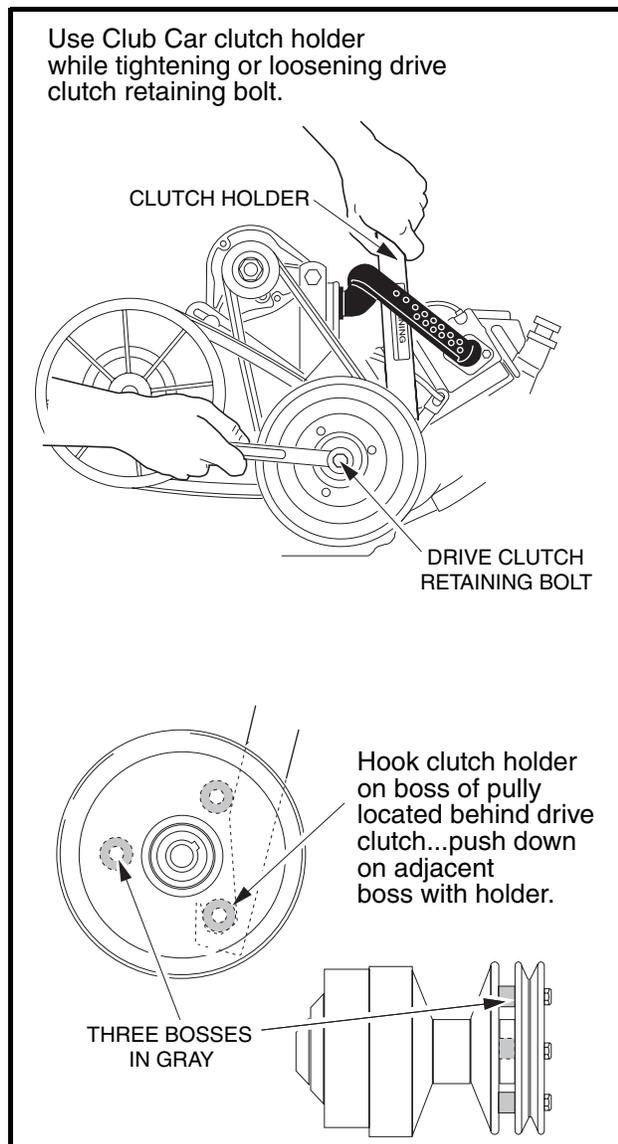
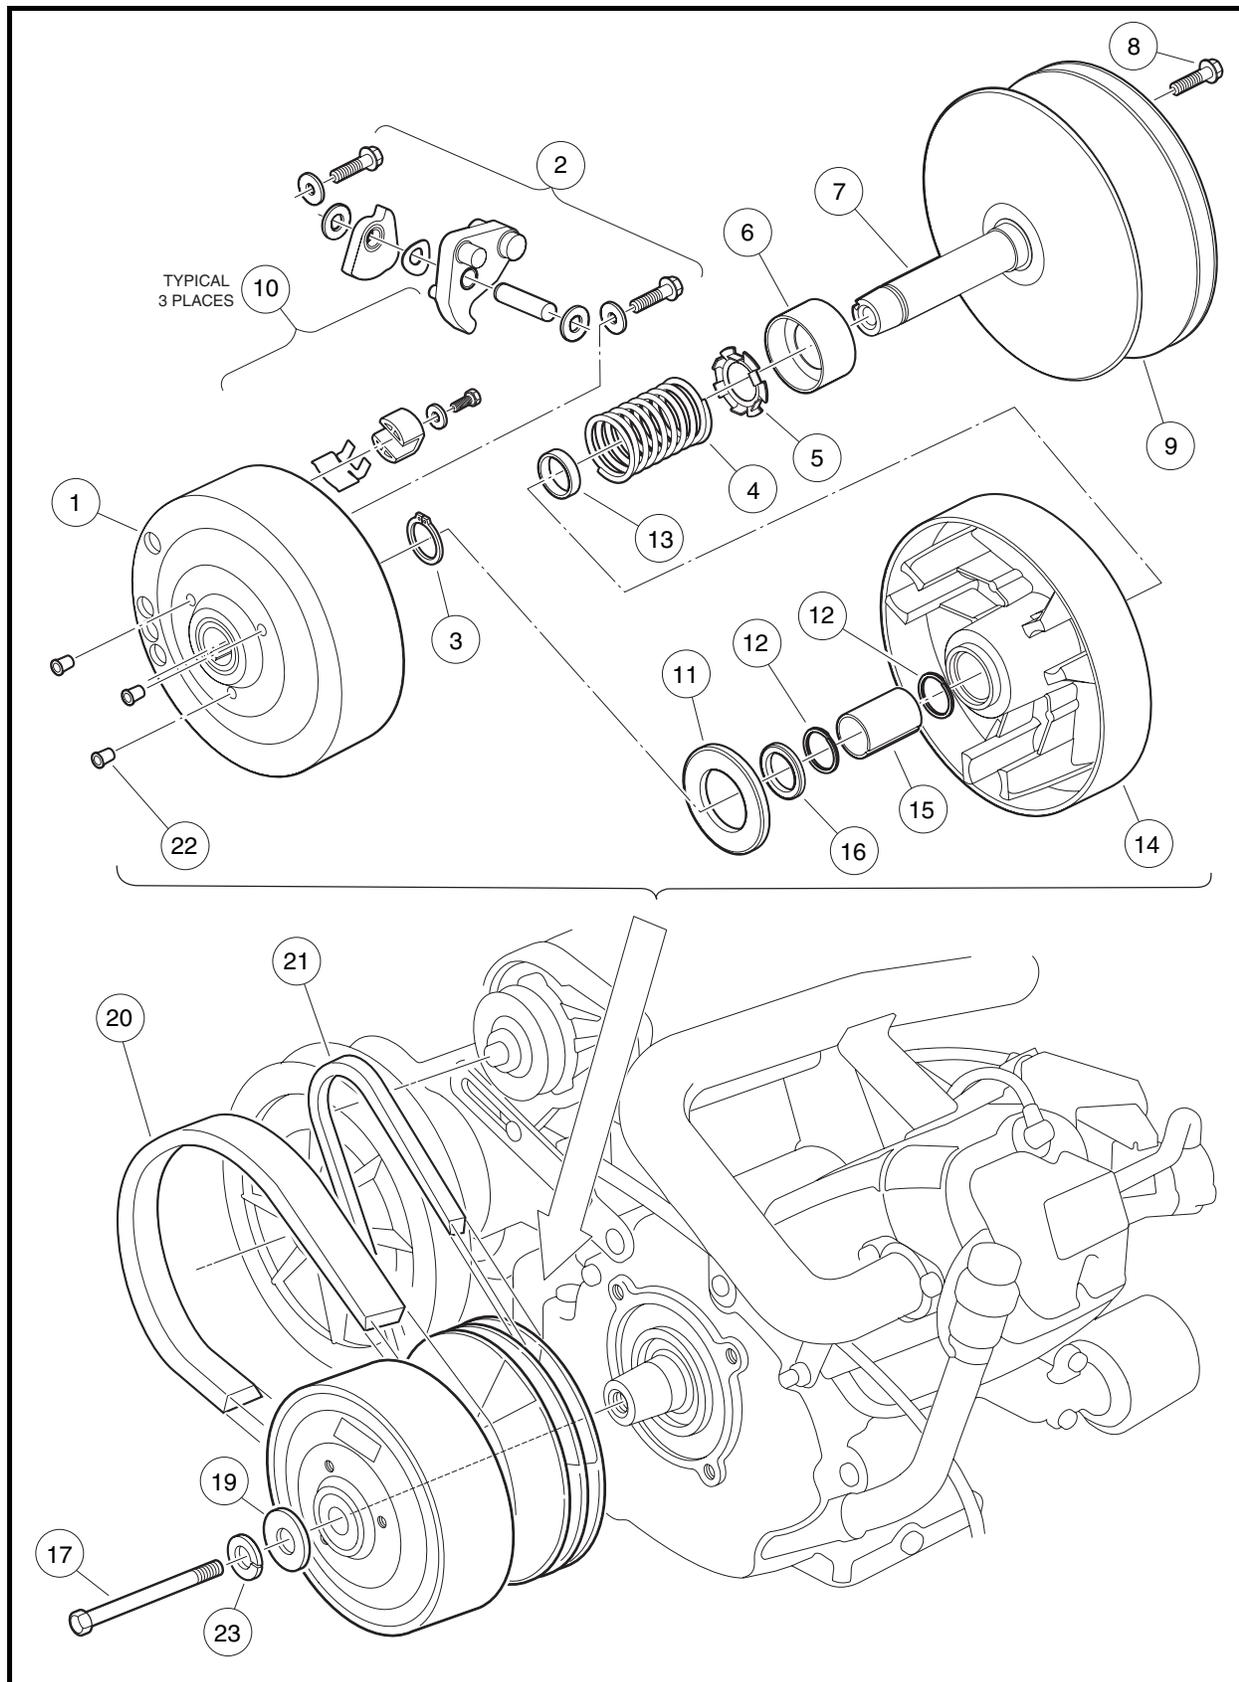
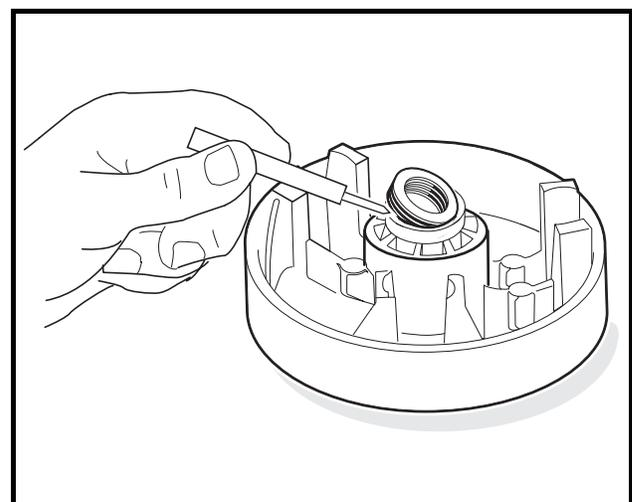

Figure 17-3 Loosen Retaining Bolt
Figure 17-7 Drive Clutch Assembly
Figure 17-15 Spiral Back-up Rings
3. If cleaning the driven clutch does not solve the problem, disassemble and thoroughly clean all parts of the drive clutch. Be sure to clean the plastic drive buttons (10) (**Figure 17-7, Page 17-6**).
6. Remove the drive clutch retaining bolt (17) and mounting washer (19) (**Figure 17-7, Page 17-6**) See also **Figure 17-3, Page 17-4**. See following **NOTE**.
- Use only a dry cloth to lightly wipe the shaft of the fixed face assembly (7) (Figure 17-7, Page 17-6). Do not use a brush or steel wool. These will damage the surface of the shaft.
2. Remove the drive clutch hub (1) (Figure 17-7, Page 17-6):
- 2.1. Remove the plugs (22) from the clutch puller attachment holes (Figure 17-7, Page 17-6).
3. Remove the thrust washer (11) from the moveable face (14) (**Figure 17-7, Page 17-6**).
- Remove the retaining ring (3) from the shaft of the fixed face assembly (7) and slide the moveable face (14) off the shaft (**Figure 17-7, Page 17-6**). See following **NOTE**.
**NOTE:** If the moveable face is removed from the hub of the fixed face, the spiral back-up rings (12) must be replaced with new ones (**Figure 17-7, Page 17-6**).
- Remove the spacer (16), spring (4), and retainer (5). The spring retainer can be removed from the spring if necessary (**Figure 17-7, Page 17-6**).
- Use a scribe or small pick to remove the spiral backup rings (12) from each end of the bore in the fixed face assembly (**Figure 17-7, Page 17-6**). See also **Figure 17-15, Page 17-9**. Discard the rings.
1. Inspect the idler bearing (6) for smooth rotation or seal damage (**Figure 17-7, Page 17-6**). See following **NOTE**.
2. Inspect the bore of the moveable face assembly (14) for scarring or wear. The moveable face assembly must be replaced if the bore is worn to a diameter of 0.883 inch (22.4 mm) or larger (**Figure 17-7, Page 17-6**).
3. Inspect the steel shaft (7) on the fixed face assembly. There should be no measurable wear anywhere on the shaft. Replace the shaft if it is worn, scratched, or damaged.
4. Inspect the thrust washer (11) for wear. If it is worn more than 0.030 inch (0.76 mm), turn it over or replace it with a new one.
5. Inspect the primary weights (2) and the hub casting for wear. If the primary weights show signs they are touching the casting, the tips of the weights have worn beyond specification and they must be replaced.
6. Inspect the pins on the primary weights (2). There should be no measurable wear. Replace them if they are worn, scratched, or damaged.
1. Press idler bearing (6) onto the shaft of the fixed face assembly (7). Press on the inner race of the bearing only. Make sure that the cup side of bearing is facing away from the fixed face (**Figure 17-7, Page 17-6**).
2. Using needle nose pliers, install the spring retainer (5) onto the spring (4).
3. Install the spring (4) and retainer (5) into the cup of the idler bearing (6).
4. Install the spacer (13) onto the shaft of the fixed face.
5. Install a new spiral backup ring (12) in each end of the bore of the moveable face assembly (14).
6. Install the moveable face assembly (14) onto the shaft of the fixed face assembly (7).
- 6.2. Install the retaining ring (3) (**Figure 17-7, Page 17-6**).
12. Install the 1/4-20 bolts and washers (2) and tighten them to 10 ft-lb (13 N·m) (**Figure 17-7, Page 17-6**).
16. Install the thrust washer (11) onto the moveable face assembly (**Figure 17-7, Page 17-6**).
17. Install the hub assembly (1) on the moveable face assembly and align the match marks made before disassembling the clutch. Press the hub assembly on by hand.
1. Place the drive clutch assembly on the crankshaft taper. Position the mounting washer (with the green side facing out) on the bolt (17) and start the bolt into the crankshaft (**Figure 17-7, Page 17-6**). See following **NOTE**.
2. Tighten the drive clutch retaining bolt (17) to 25 ft-lb (33.9 N·m) (**Figure 17-7, Page 17-6**).